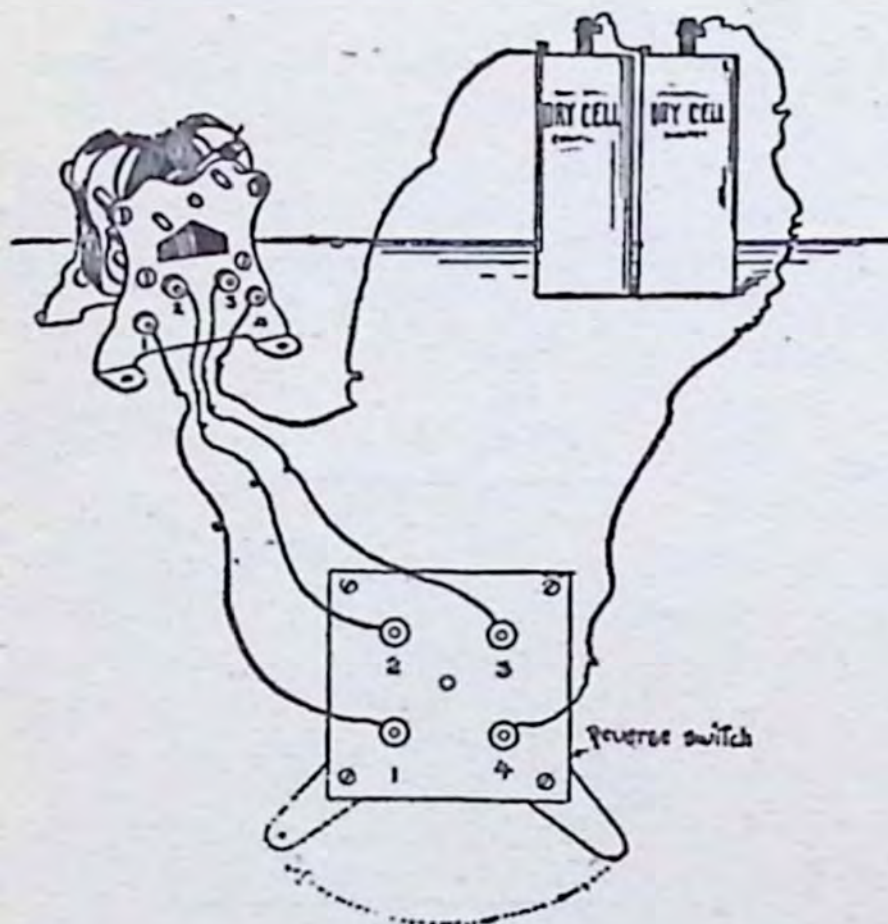

Fig. 17
**(21) HOW THE REVERSING SWITCH WORKS:** Connect the reversing switch with the motor and battery as shown in Fig. 17, that is, connect the binding post of the motor marked 1 to the binding post
of the reverse switch marked 1; connect the binding post of the motor marked 2 to the binding post 2 of the switch; connect the post 3 of the motor with the post of the switch marked 3; finally connect the post 4 with the zinc of the battery and the carbon of the battery with the binding post 4 of the switch. Now when the lever of the switch is in the position shown by the full line in Fig. 17, the armature will run in one direction, and when the lever of the switch is in the position shown by the broken line, the armature will run in the opposite direction. Finally